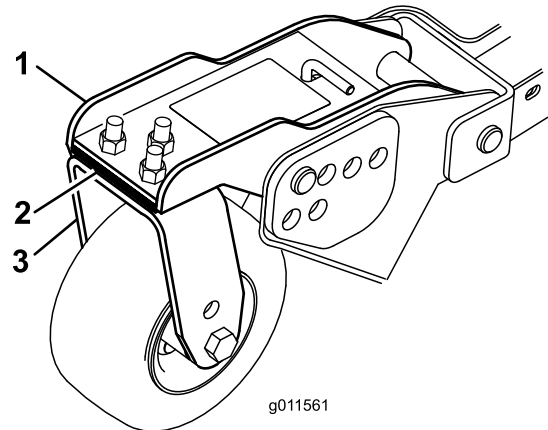

Figure 31
3. Adjust the shims (3 mm or 1/8 inch) on front caster arm(s) to match the height-of-cut decal (Figure 31).
3. If the inside edge of the side cutting unit is too high relative to the outside edge of the front cutting unit, remove a shim from the bottom of the front, inside caster arm on the side cutting unit (Figure 31).